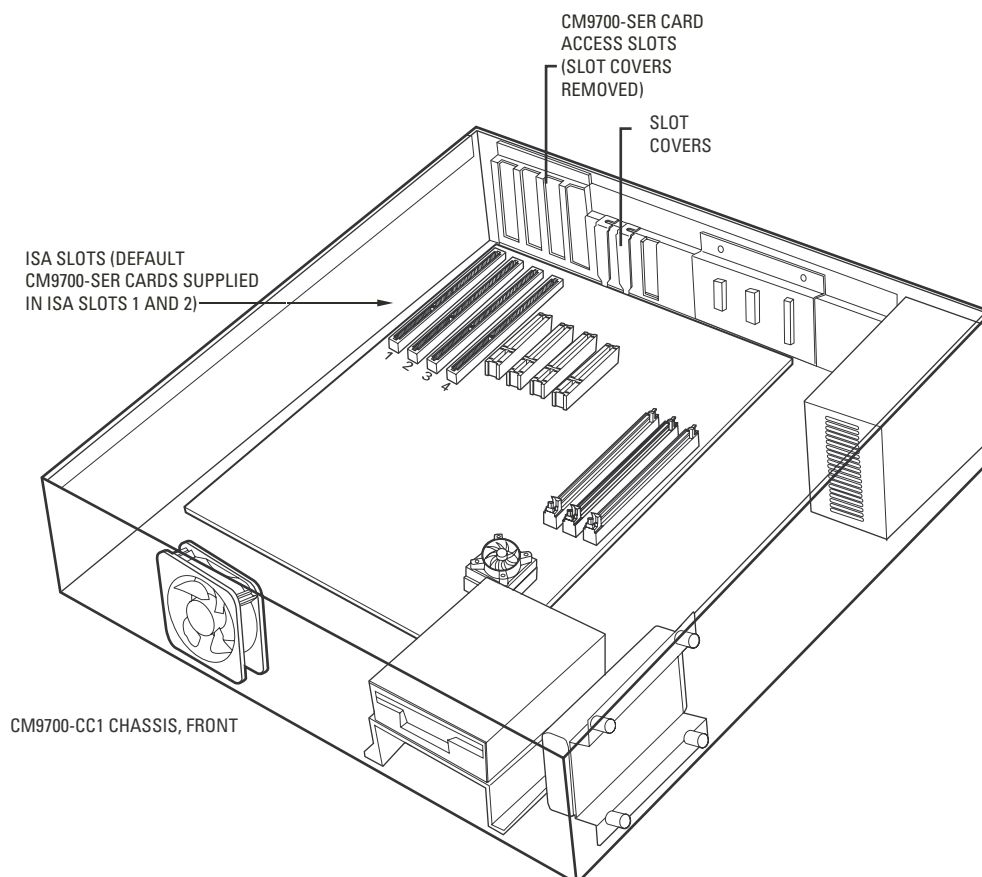

Figure 40. How to Install a CM9700-SER Card
4. Insert the new SER card into an available ISA slot. The default CM9700-CC1 configuration provides SER cards in ISA slots 1 and 2, so you will most likely insert the new card into slot 3 or 4. Refer to Figure 40.